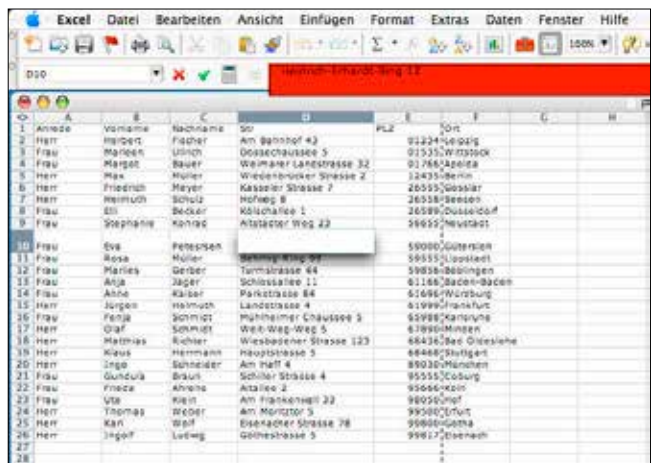

Fig 2
- No line breaks, no connected cells inside of the spread sheet (see Fig. 2)